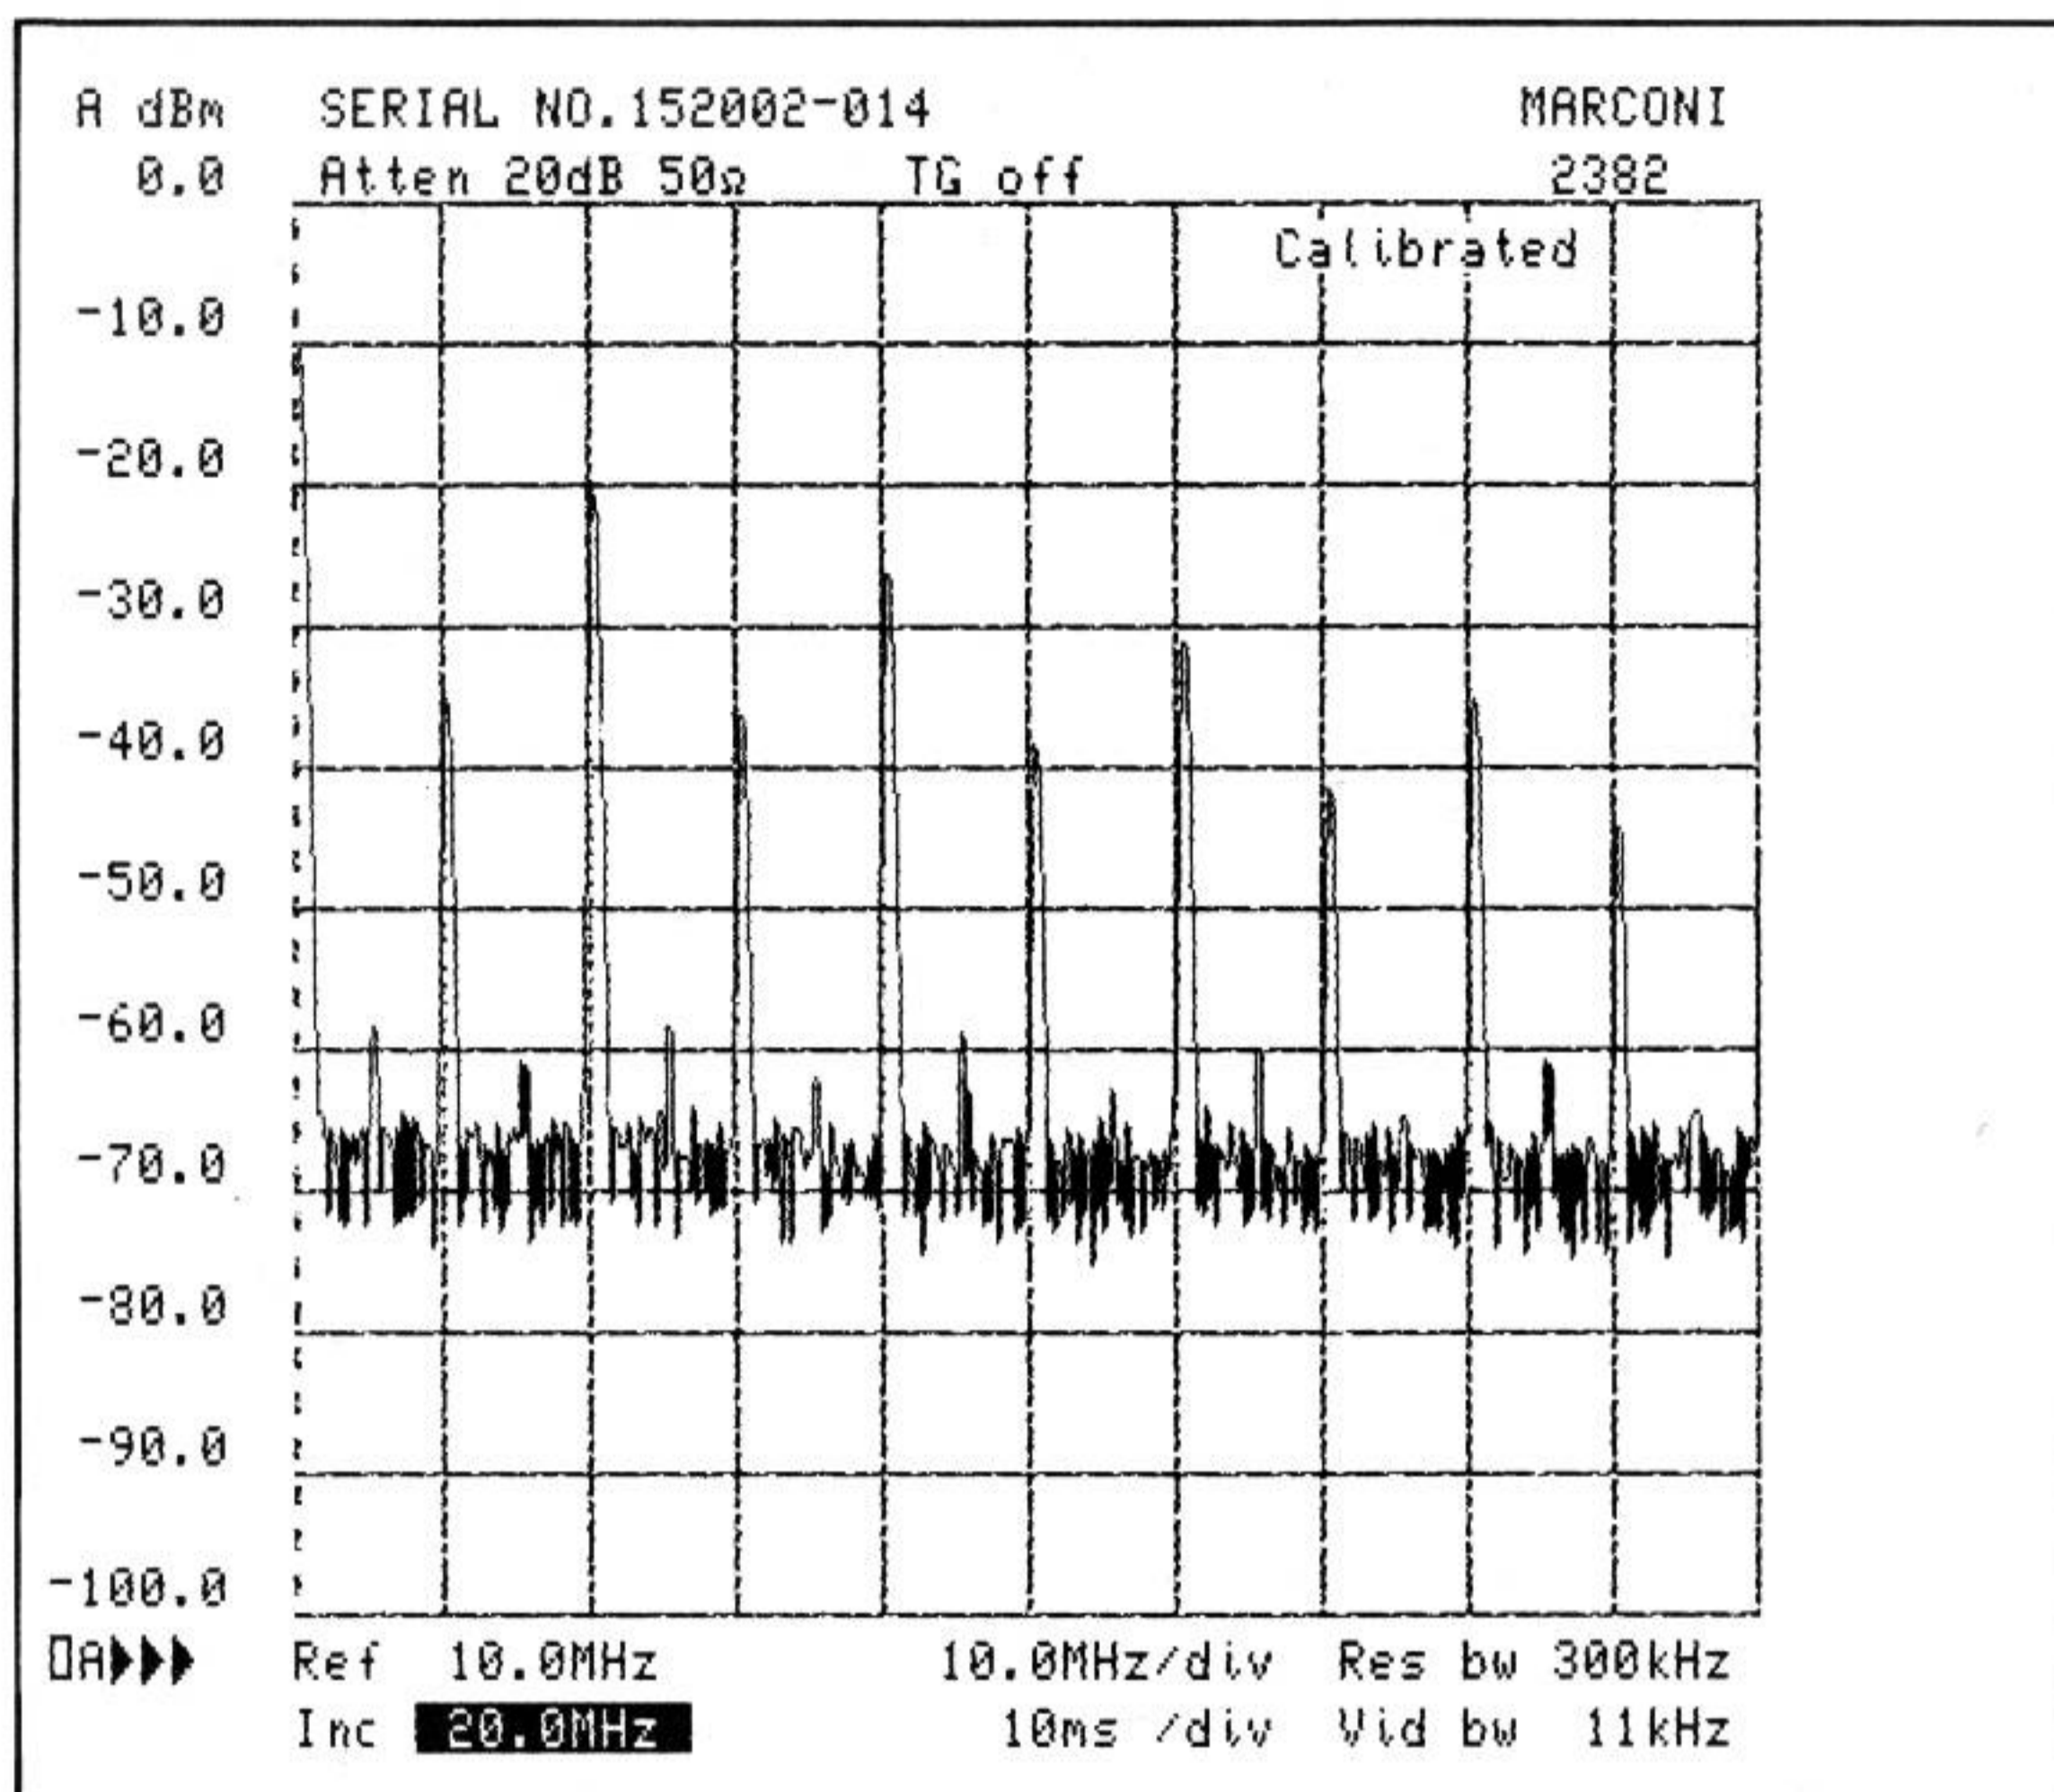

Fig. 6 The left hand reference mode (/DIV)
29. Initial operation of the SELECT & PRESET key [36] automatically made the HORIZ POSN control [16] active in the centre reference mode and hence in the previous operations the reference frequency has been displayed by the dashed vertical line in the middle of the graticule area. Press the HORIZ POSN key [16]. The screen now displays the 10 MHz signal and dashed vertical line at the right hand side of the graticule area. If HORIZ POSN is pressed again the 10 MHz signal and dashed vertical line are displayed at the left hand side of the graticule area (refer to Fig. 6). Repeated operation of the key moves the 10 MHz signal and dashed vertical line sequentially through each of the three positions in turn. Select the left hand reference position again. At a setting of 10 MHz/div. frequency span the harmonics can be seen adjacent to every vertical graticule line to the right of the reference frequency.